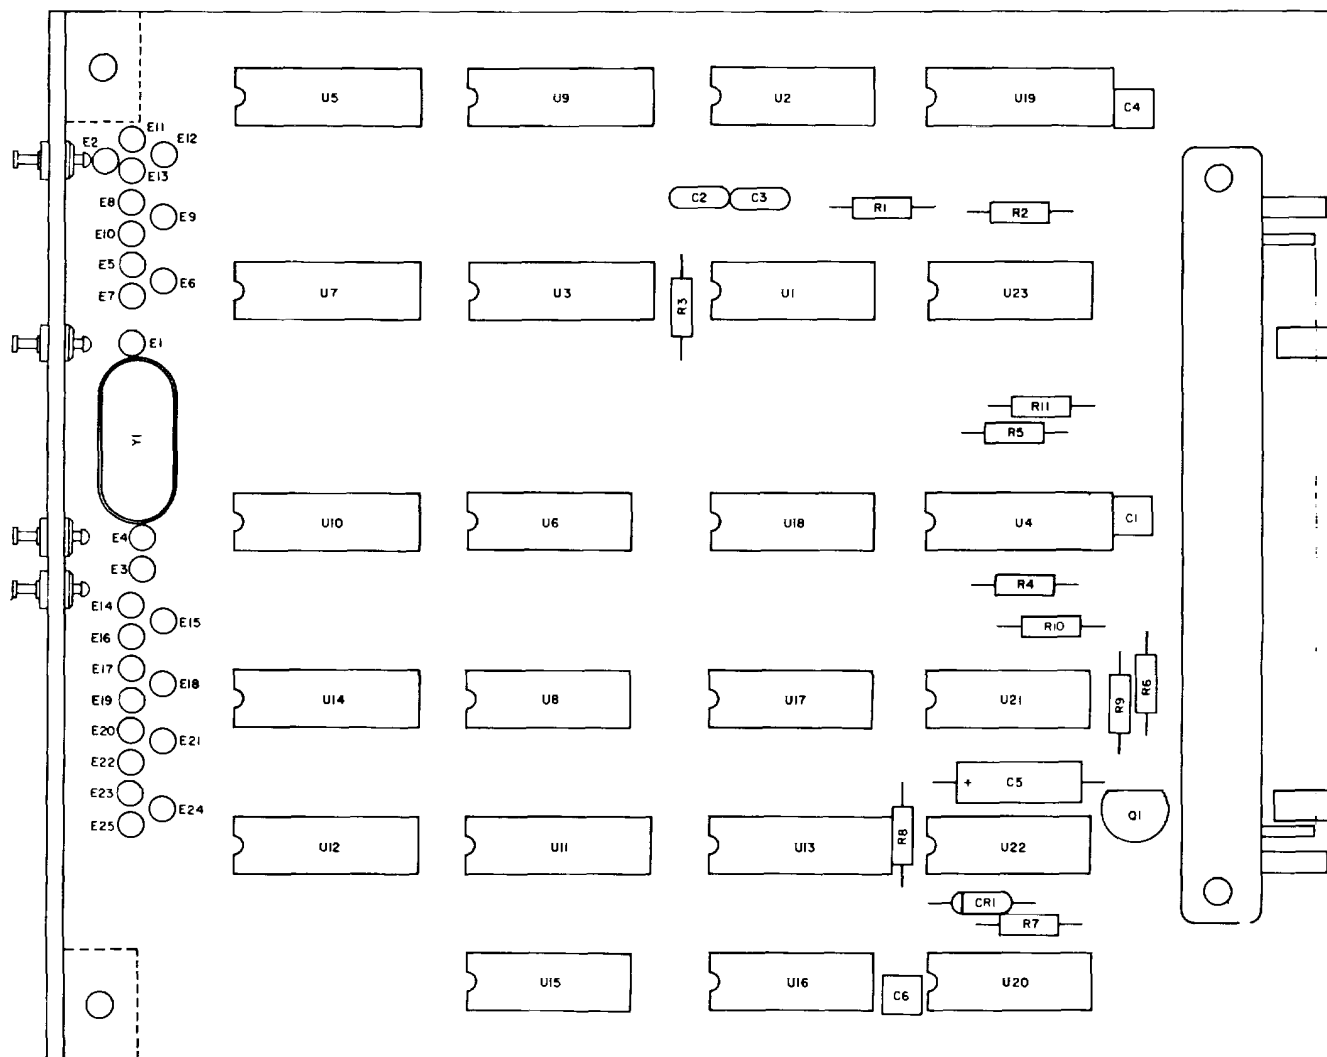

Figure 5-3. Phase Comparator Circuit Card Assembly, 1A3A2 Parts Location Diagram
c. Phase Comparator Circuit Card Assembly. (1A3A2) Disassembly. This circuit card assembly should be removed only when servicing or component replacement is required. To remove this circuit card assembly, grasp both edges of the card and pull up. Further disassembly should be limited to removal of parts for repair or replacement. Refer to figure 5-3 for location of components to be replaced.